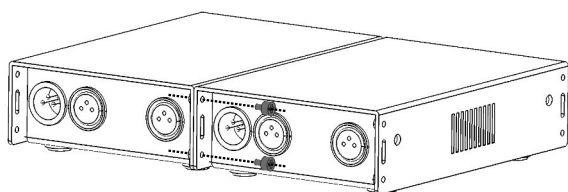

Figure 1
1. Attach the IPX-301 using 4 **M3x5 screws**, 2 at the front and 2 at the rear of both IPX-301s (**Figure 1**).